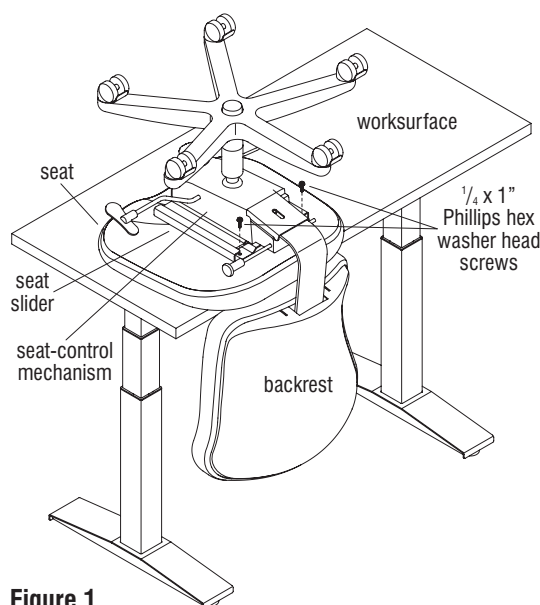

Figure 1
1. Place the Impress Task Chair upside down on a hard, sturdy surface (table) with the Impress seat resting on the surface and the backrest portion hanging down over the edge of the table (Figure 1).
2. Remove the two rear exposed 1/4 x 1" Phillips hex head washer screws securing the seat to the seat slider. Press the seat slider mechanism lever down and slide the seat-control mechanism forward until the remaining two front mounting screws are exposed on the seat slider. Remove the two remaining 1/4 x 1" Phillips hex head washer screws securing the seat to the slider (Figures 1 & 2).